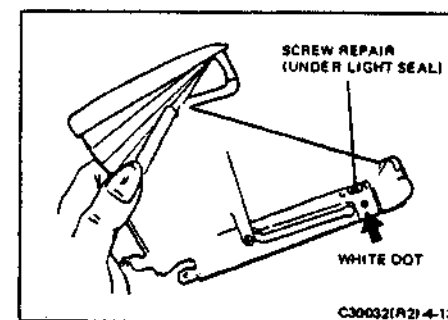

FIGURE 4-13 WHITE DOT INDICATION OF SCREW REPAIR TO BOOT RETAINER TAB
- f. Paint or mark a white dot under the light seal to warn that a screw fix has been made (Figure 4-13).
Caution: Before continuing with step 12, look for a white dot painted under the light seal on the upper right side of the bottom plate (Figure 4-13). If the dot is there, it means that a previously broken boot tab has been repaired by using a screw. In this event, you cannot snap off the retainer as described in the next paragraph.